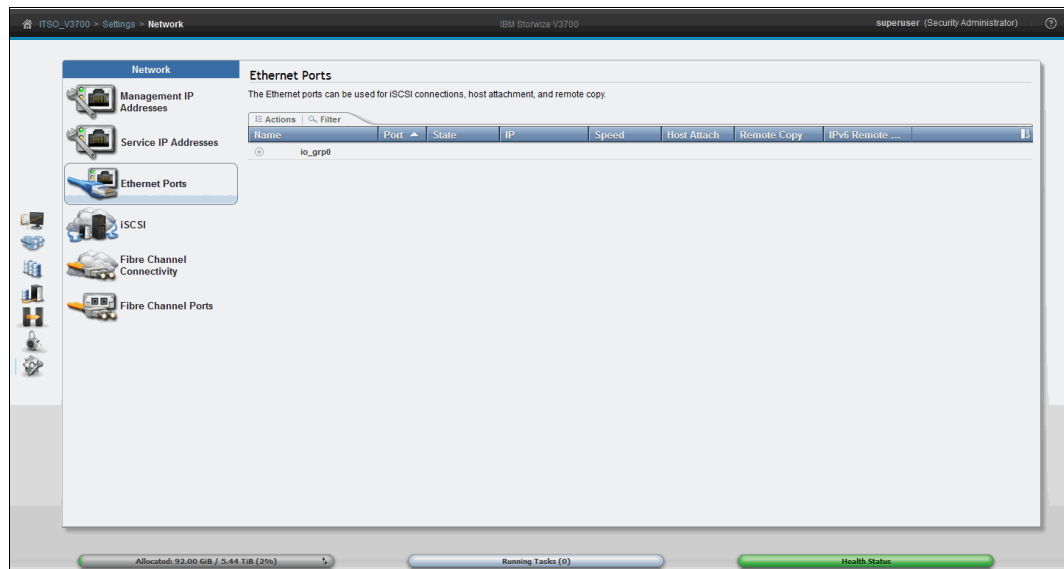

Figure 4-48 The Ethernet Ports view
2. Select **Ethernet Ports** and the Ethernet port configuration view should open, as shown in Figure 4-48.